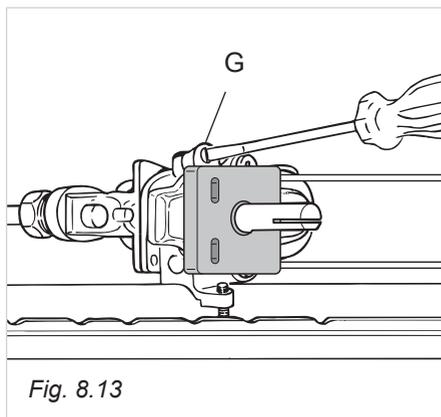

Fig. 8.13
- remove the knob and unscrew the by-pass screw (fig. 8.13) about three times by passing a small flat screwdriver (\varnothing 3 mm blade, 100 mm length) through the panel opening;
- after having removed the knob again and being very careful not to turn the tap rod, slowly screw the by-pass screws "G" (fig. 8.13) until you obtain a flame of 3-4 mm in height.